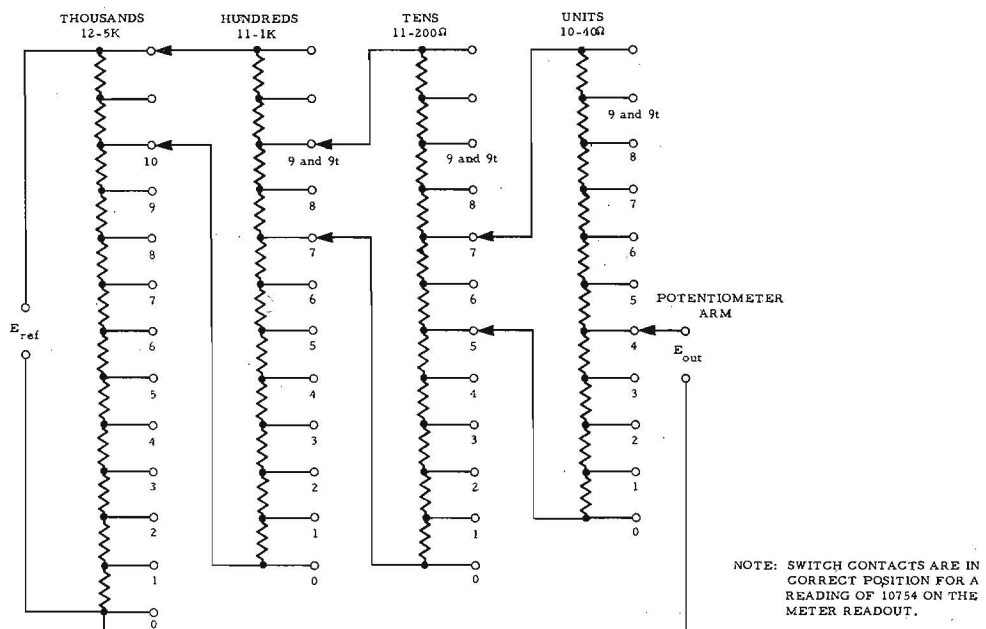

Figure 2. Simplified Schematic of Kelvin-Varley Potentiometer Circuit
a. Kelvin-Varley Potentiometer. Figure 2 is a simplified schematic of the potentiometer circuit used in the instrument. Each pair of potentiometer wipers and associated contacts are physically a level on a stepping switch.